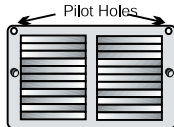

Figure 1
- 1a. Installing over an existing register grill (see figure 1)